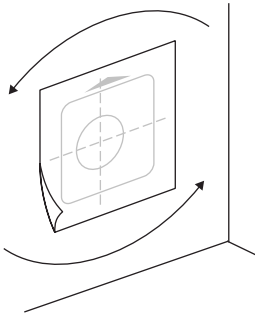
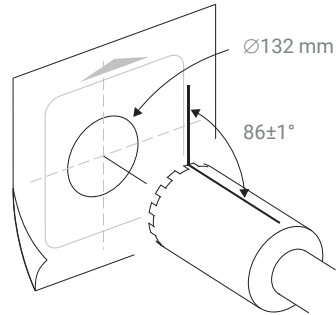

Figure 6.2.
Figure 6.3.
- Position the mounting template according to the selected type of device orientation (Figure 6.2). Place the mounting template on the wall and mark out the location for drilling the air duct23. Drill an air duct according to the requirements shown in Figure 6.3. Use an industrial vacuum cleaner with a water catcher ring to prevent spoiling of the interior decoration.